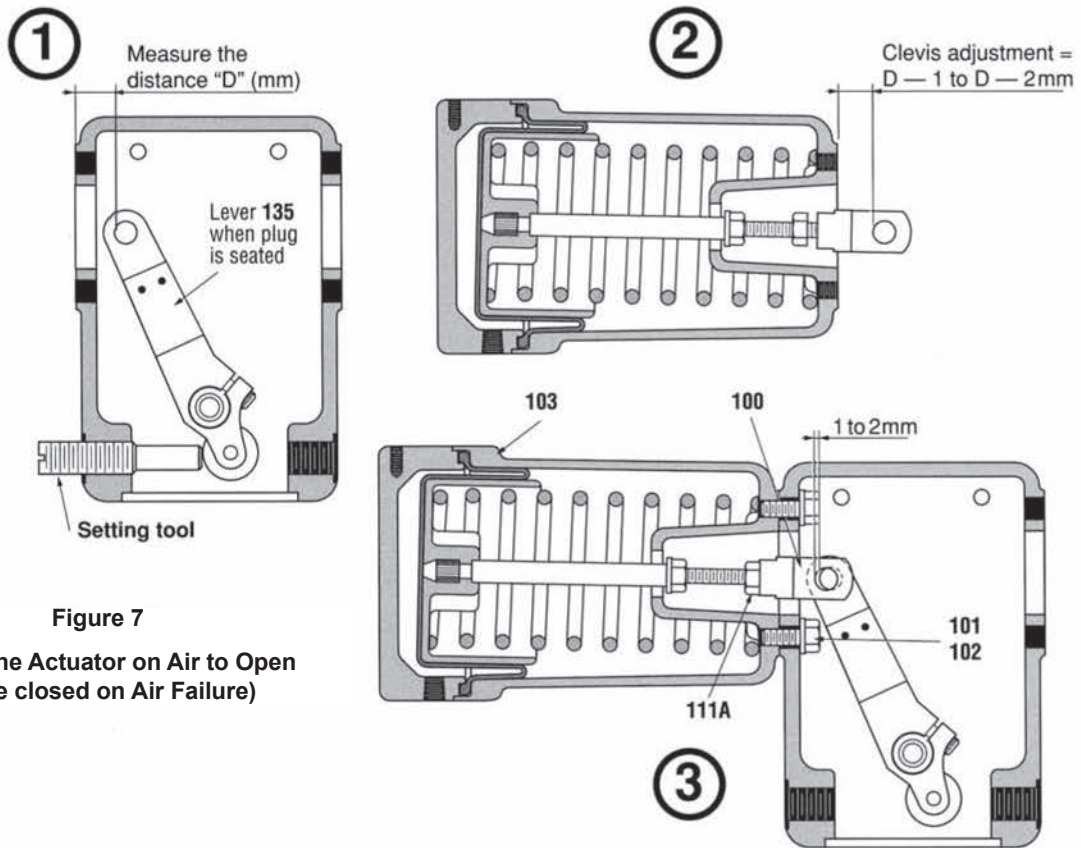

Figure 7
A. Valve closed on air failure (Air to open) (Figure 7)
- Determine the position of the lever at which the valve reaches the required tightness and measure the "D" distance from the contact surface of the spring barrel on the yoke to the beginning of the hole for the clevis pin in the lever (135).
- The clevis (100) can now be adjusted so that the distance from the beginning of the hole for the clevis pin to the contact surface for the yoke is 1 to 2 mm less than the previously measured "D" distance.
- Remove the handwheel or setting tool and secure the spring barrel with the screws (101) and washers (102).